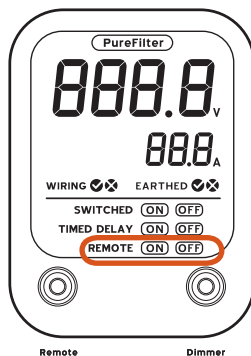

Fig. 2b
- B. Press the "Remote" button on the front of the Power Console to turn on the remote function. The LCD display should read "REMOTE ON". (Fig. 2b)